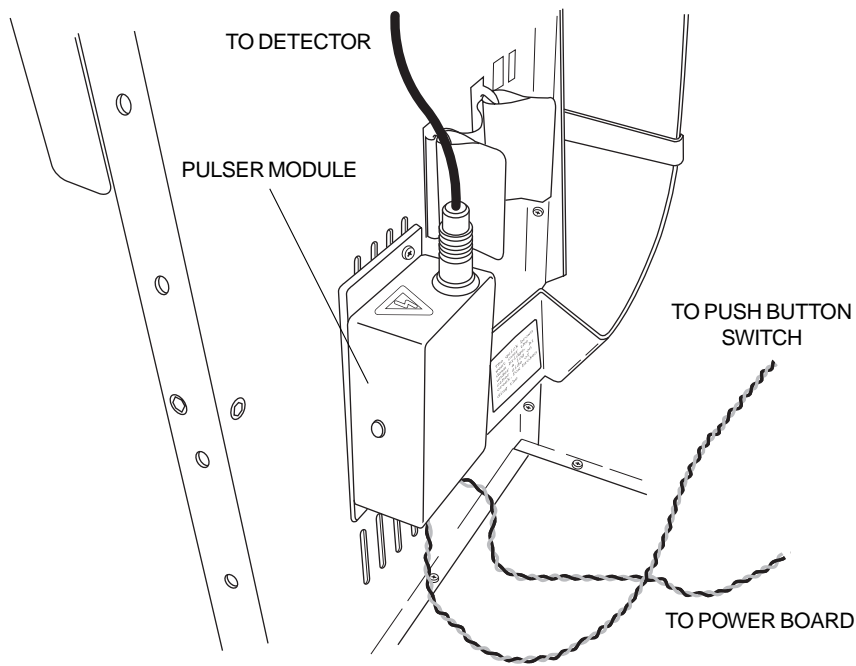

Figure 5: Mounting the pulser module in the pneumatics area of the GC
1. Mount the pulser module in the pneumatics area of the GC, using existing slotted screw holes. (Figure 5)